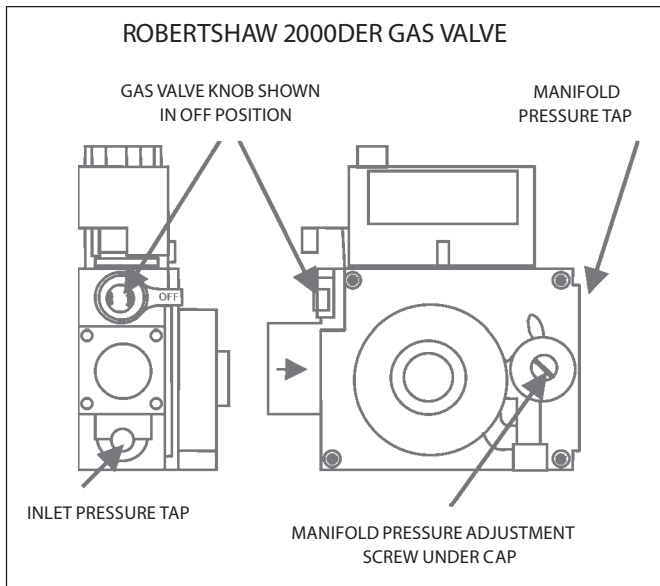

FIGURE 10
GAS VALVE OPERATION FOR ROBERTSHAW 2000 DER SERIES VALVE (FIGURE 10)
5. Depress knob on gas valve; knob will snap to OFF. (See Figure 10)
- After line pressure has been checked and adjusted, check manifold pressure. Correct manifold pressure is shown on the unit rating plate. See figure 10 for gas pressure adjustment screw location. A natural gas to LP/propane gas changeover kit is required to convert unit. Refer to installation instructions provided with changeover kit for conversion procedure.